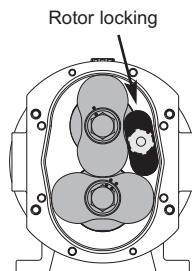

Figure 3
2. Position the rotors **27** and insert the rotor locking tool as shown in figure 3.